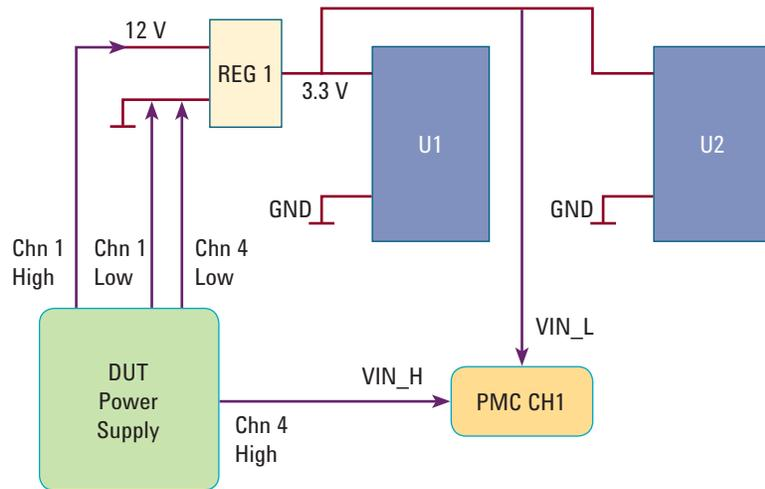

Figure 4. PMC connection to detect over voltage
1. With reference to Figure 4, select an unused¹ DUT power supply channel (example: channel 4) and connect the high output to “Vin_H” of PMC channel 1. Mint pin/personality pin location is 213173.